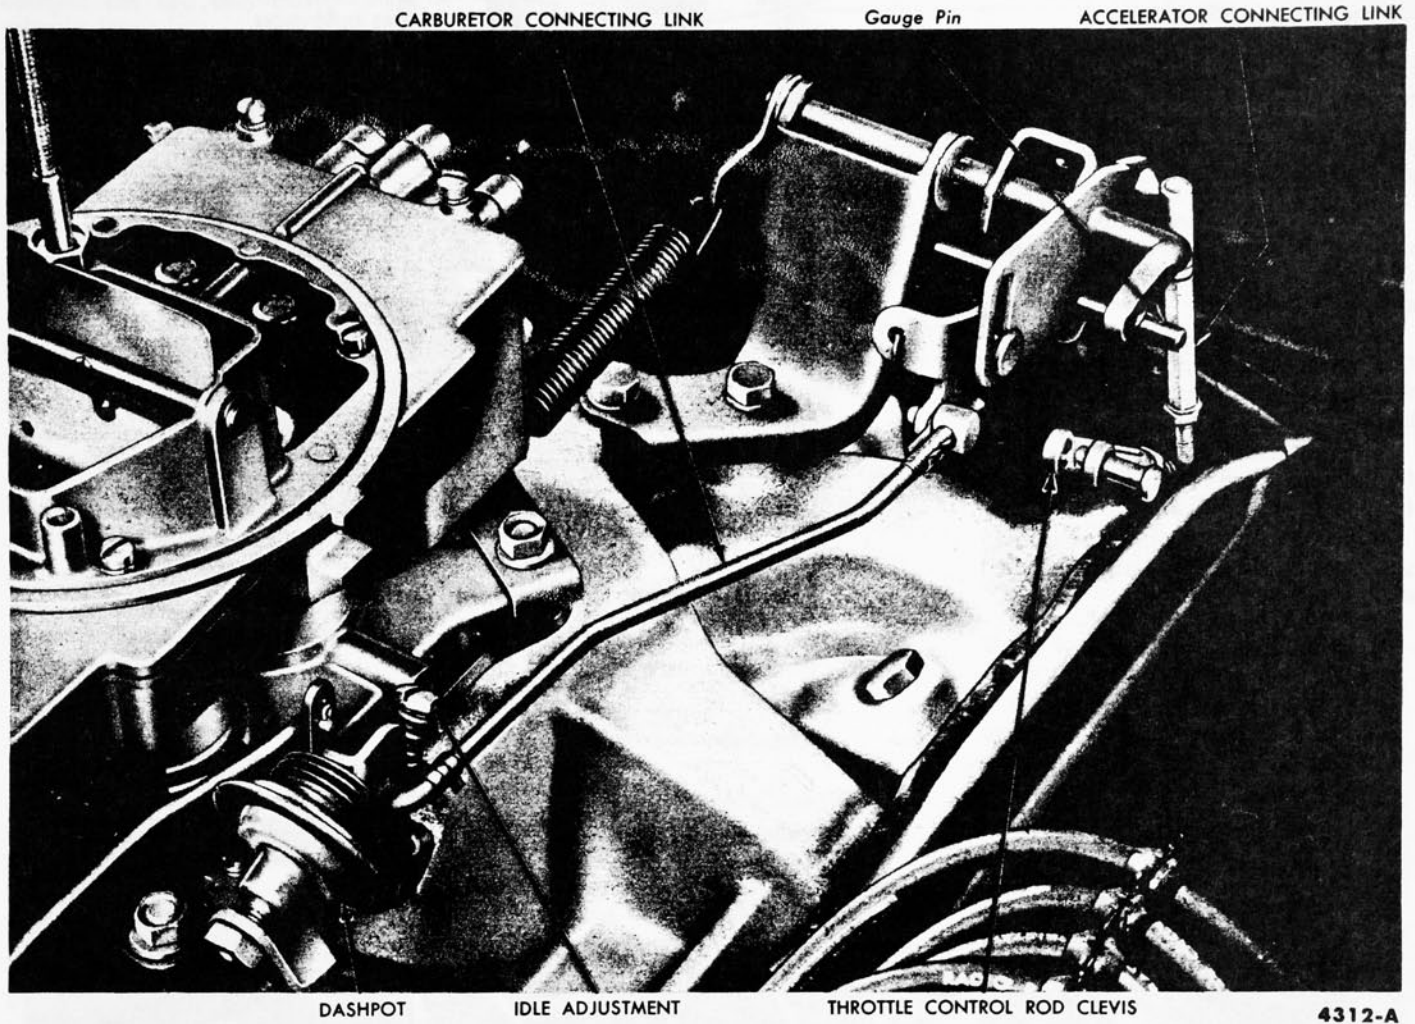

FIG. 5—Throttle Linkage
4. Adjust the engine idle speed (Fig. 5). **The fast idle cam must be in the slow position.**
idle position, bottom the dashpot plunger (Fig. 5) and measure the clearance between the bottomed plunger and the throttle shaft lever. Dashpot clearance should be 0.035-0.050 inch.
1. With the engine stopped, disconnect the throttle control rod from the accelerator (Fig. 5).
2. Insert a gauge pin (¼-inch drill rod) through the gauging holes shown in Fig. 5.